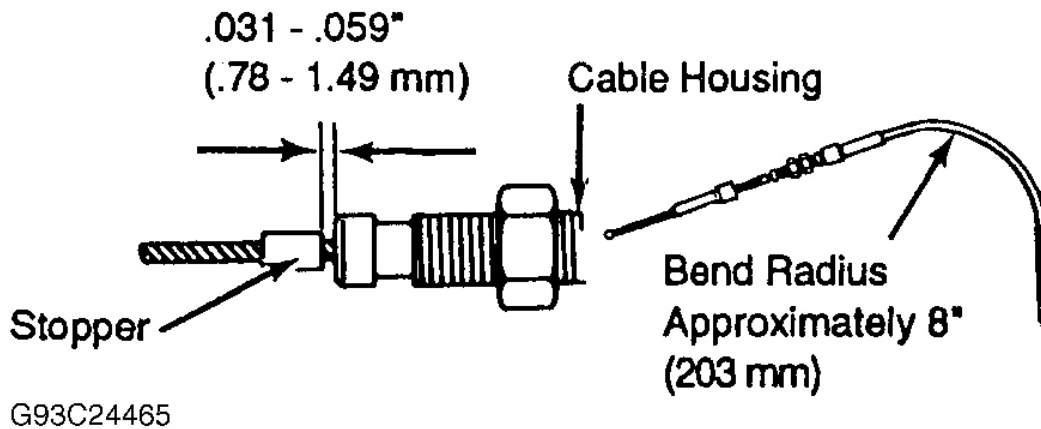

Fig. 2: Locating Throttle Cable Stopper
2. Pull inner cable lightly, until a slight resistance is felt, and hold in place. Stake stopper on inner cable, leaving a .031-.059" (.78-1.49 mm) gap between cable housing and stopper. See **Fig. 2**.